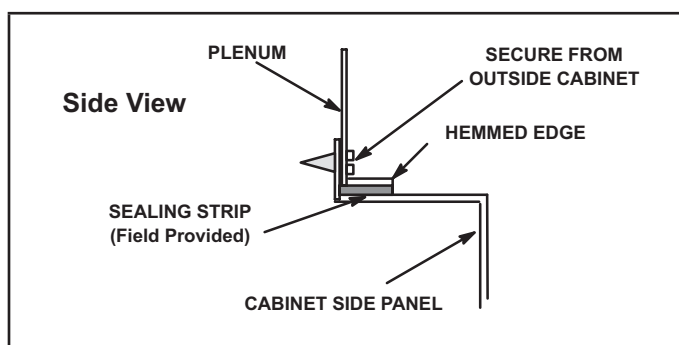

FIGURE 9
- 1 - Bottom edge of plenum should be flanged with a hemmed edge. See FIGURE 9.